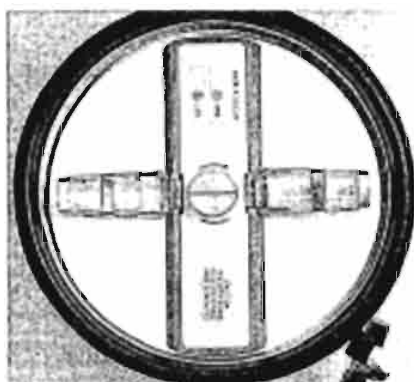

Figure 12. MP READACRIT Centrifuge with Filled SEDI-CAL Tube (left) and Balance Tube (right).
- a. Lift one of the two hinged covers on the SEDI-CAL Tube Holder. Place the SEDI-CAL Tube in the holder with its cap toward the center, as shown in Figure 12.
Tube may be used in the other holder. The balance tube, shown in Figure 12, eliminates the need for filling a second SEDI-CAL Tube when only one sample is to be centrifuged.